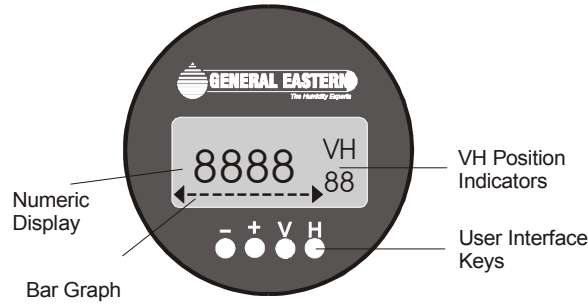

Fig. 19
The display of the DewPro MMR 31 continuously shows the current matrix location using the vertical (V) and horizontal (H) coordinates to designate the row and column, respectively. The bar graph represents the output current in an analogue fashion (refer to Figure 19). See the Appendix for an enlarged overview of the matrix.